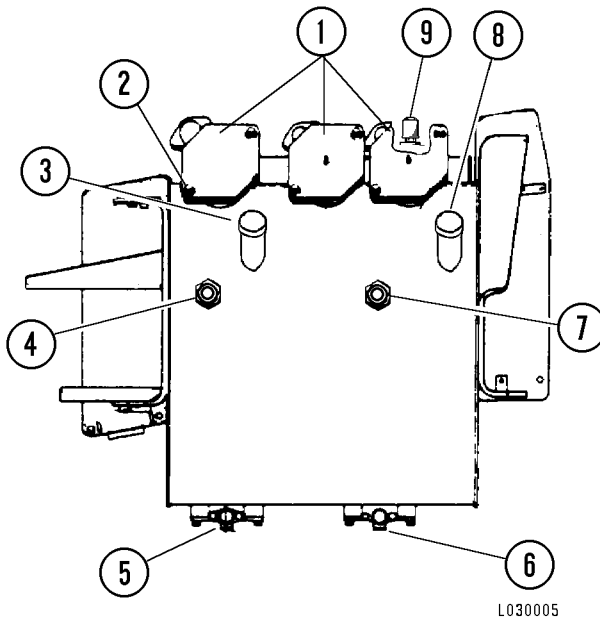

FIGURE 4-3. HYDRAULIC TANK
2. Turn oil filler cap (3, Figure 4-3) slowly counter-clockwise to release internal tank pressure.
2. Turn oil filler cap (8, Figure 4-3) slowly counter-clockwise to release internal tank pressure.
3. Fill tank with recommended oil until the level is visible in the center portion of sight glass (7). To reduce rear brake squeal, use ONLY SHELL DONAX - TD Oil or BP TRACTRAN UTH. If these oils are not available, refer to Lube Key C.
2. Turn oil filler caps (3 and 8, Figure 4-3) slowly counterclockwise to release internal tank pressure.
3. Remove bolts (2) on filter covers (1).
5. Thoroughly clean filter housings, covers (4) and bypass valve (3) components.
6. Install new filter elements. Install bypass valves and covers. Tighten bolts (2, Figure 4-3) to required torque.
2. Clean dirt accumulation from area of breather (9, Figure 4-3).
2. Turn the oil filler caps (3 and 8, Figure 4-3) slowly counter-clockwise to release internal tank pressure.
5. Start the engine and check for leaks before releasing the truck for service. Check the hydraulic tank oil level to ensure that the oil level is visible in the center portion of the sight glass (4, Figure 4-3).